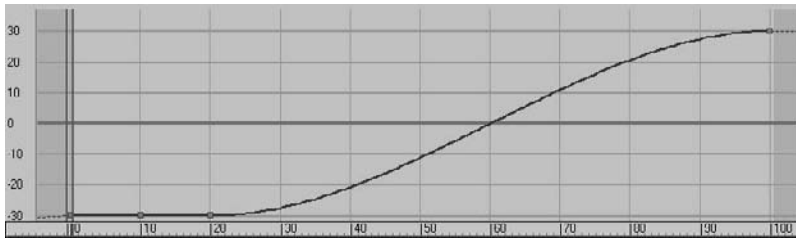

Figure 8.36
3. Don't play the animation yet; it isn't going to look right. Go to the Curve Editor, scroll down in the Controller window, and select the  $X$  Position track for the ball (Figure 8.36).